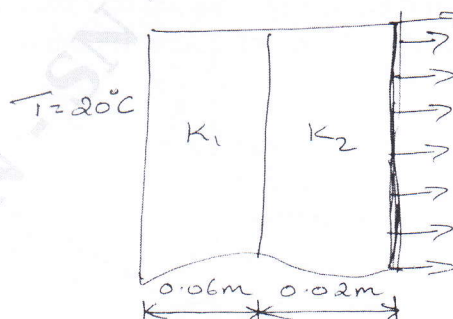

Fig.Q7(b)
b. Determine the temperature distribution through the composite wall subjected to convection heat loss on the right side surface with convection heat transfer co-efficient shown in Fig.Q7(b), the ambient temperature is -5°C .